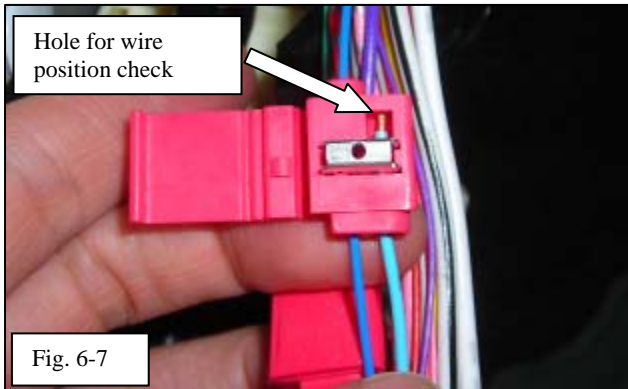

Fig. 6-7
(4) Insert the **BLUE** fused wire from the illuminated door sill into the Scotchlok. You should be able to see the wire through the hole if it is inserted all the way. (Fig. 6-7)